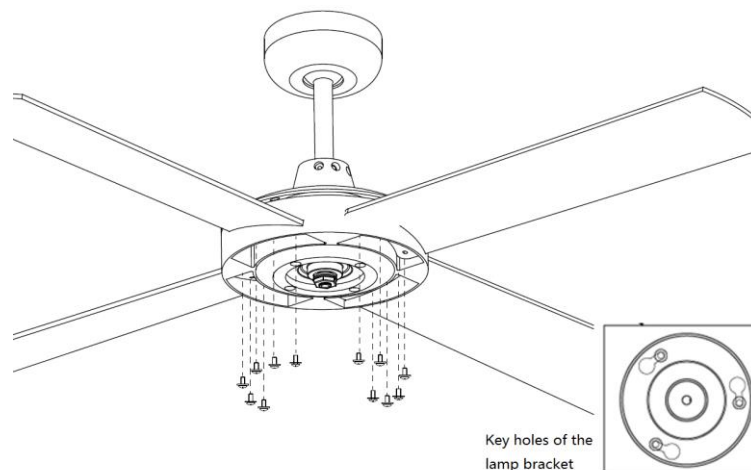

Fig. 5
1. Insert the blades through the side slot of the motor and align with the 3 holes. If the holes do not align, the blade is upside down. The blade should fit securely and the screws should slot into the blade screw holes. Insert the screw driver with the screw through the key hole of the lamp bracket. Secure the blades with 3 blade screws. Ensure all screws are tightened evenly to reduce the chance of warping or unbalancing. Repeat this process for all blades. **Fig. 5**